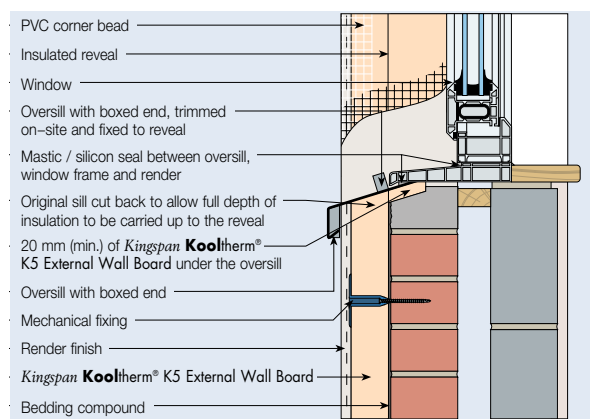

Figure 9 – Oversill Extension Detail (Refurbishment)
- In refurbishment projects, sill extenders and flashings should be used around openings, with care taken to avoid cold bridging (see Figure 9).